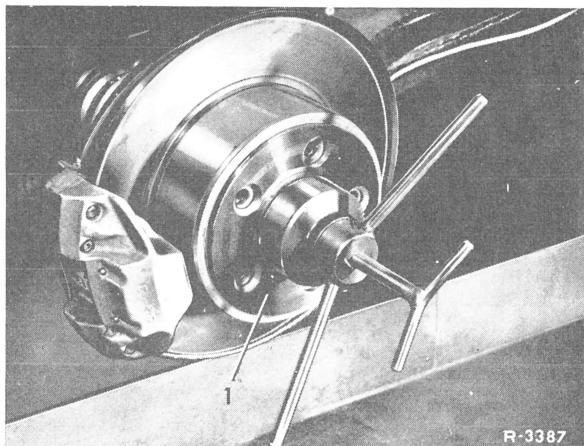

Fig. 11
**19** Install both rear axle shafts with fixture into rear axle shaft flange (Fig. 11).